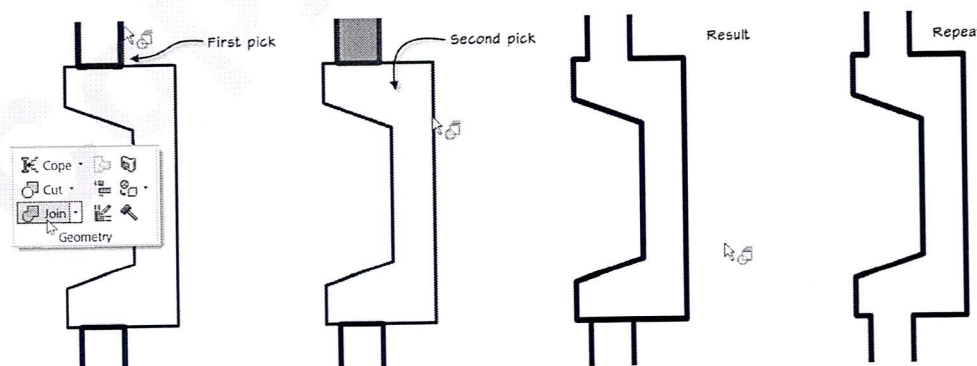

FIGURE 4.66 Use Join Geometry to join the walls to the Fireplace
- ⇒ Then click the Fireplace to join them (see Figure 4.66).